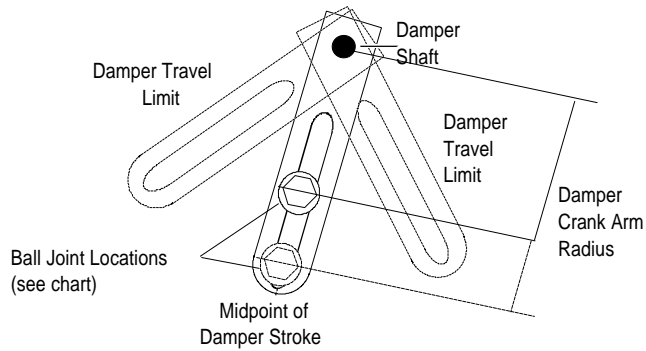

Figure 3: LVR27A-600 Damper Crank Arm
4. Rotate the damper crank arm as shown in Figure 3 to determine the angular rotation of the damper.